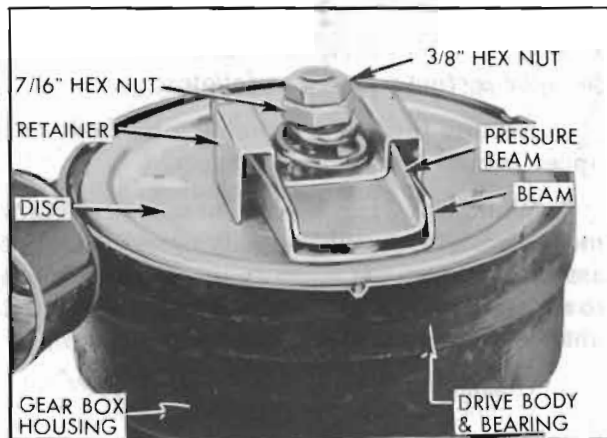

Figure 11-15—Antenna with Cover Removed
3. Remove the $\frac{7}{16}$ " hex nut. See Figure 11-15.